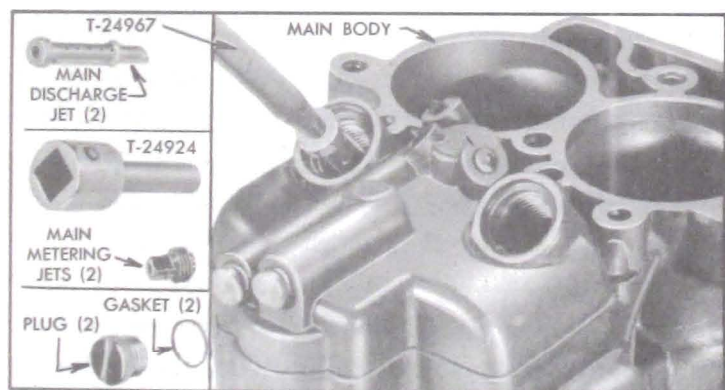

Figure 3-72—Removing Main Metering Well Parts
11. Remove main metering jets using Wrench T-24924. Remove main discharge nozzles by screwing Remover T-24967 (R.H. thread) into nozzle, then pulling nozzle from main body. **NOTE:** *There are no lead gaskets under nozzles in this carburetor.* See figure 3-72.